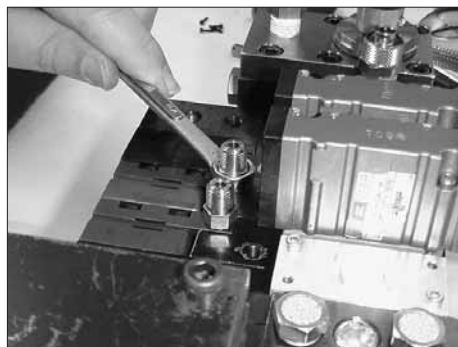

Figure 7-89 Installing a rupture disk
3. See Figure 7-89. Using a $\frac{7}{16}$ -in. wrench, install a rupture disk in each pump and tighten.